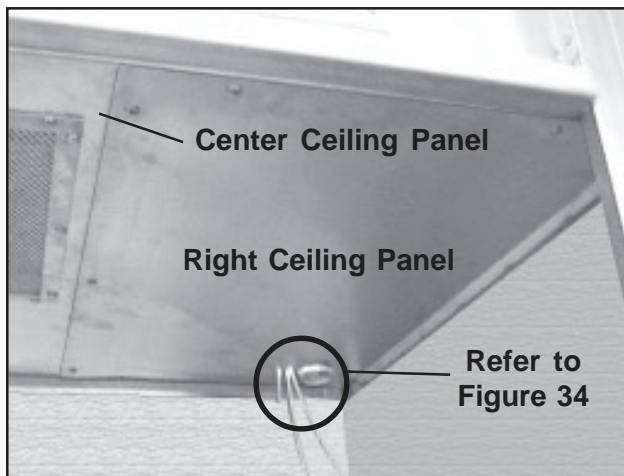

Figure 33. Right Ceiling Panel in Place
Next you will install the right ceiling panel. At the right rear corner of the panel is one 2-1/2 in. hole, and three 1/4 in. holes (Figures 33 & 34).
1. Hold the right ceiling panel in place under the base frame to the right of, and overlapping, the center panel (Figure 33).
4. Secure the panel to the base frame with ten 1/2 in. Phillips screws into the holes in the front, rear, and sides (Figure 33). The three screws on the left side also secure the center ceiling panel.